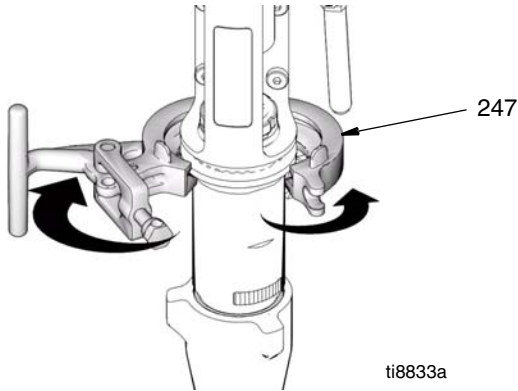

FIG. 11
7. (FIG. 11) Open clamp (247).